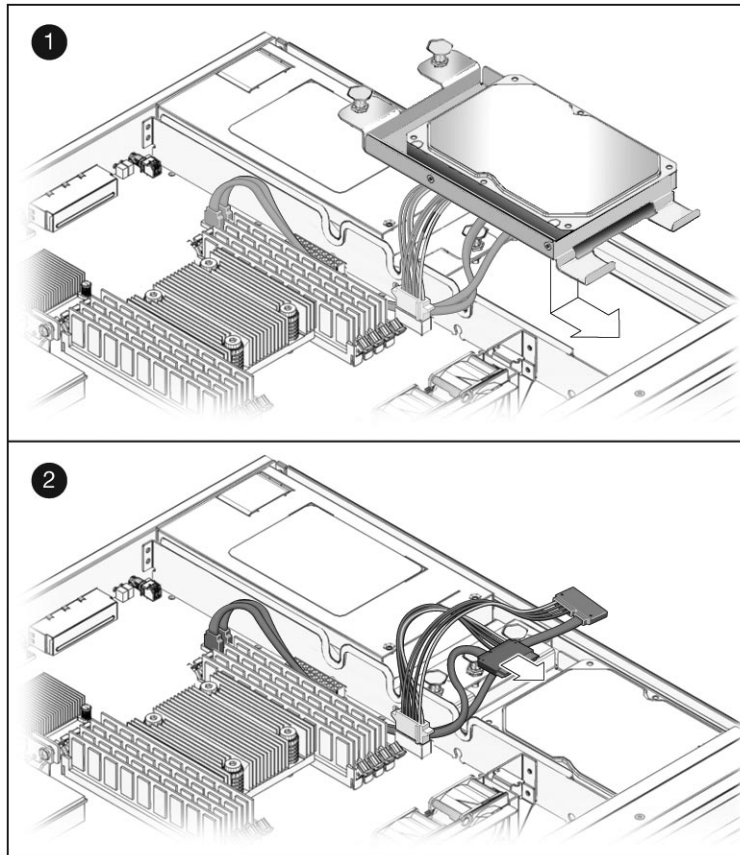

FIGURE 5-7 Installing the Single-Drive Assembly
2. Slide the single-drive assembly into the chassis until it mates with the front of the chassis (FIGURE 5-7).
5. Reconnect the data cable to the data/power connector on the drive (FIGURE 5-7).